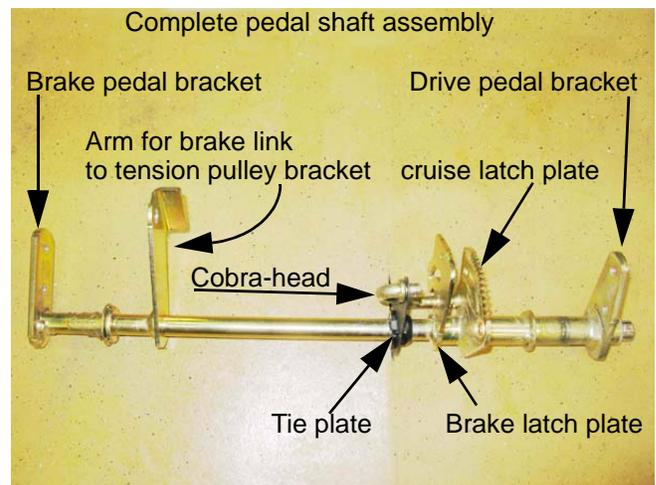

Figure 6.27
13. Remove the bolt from the left side pedal shaft support strap, and remove the pedal shaft assembly from the tractor. See Figure 6.27.